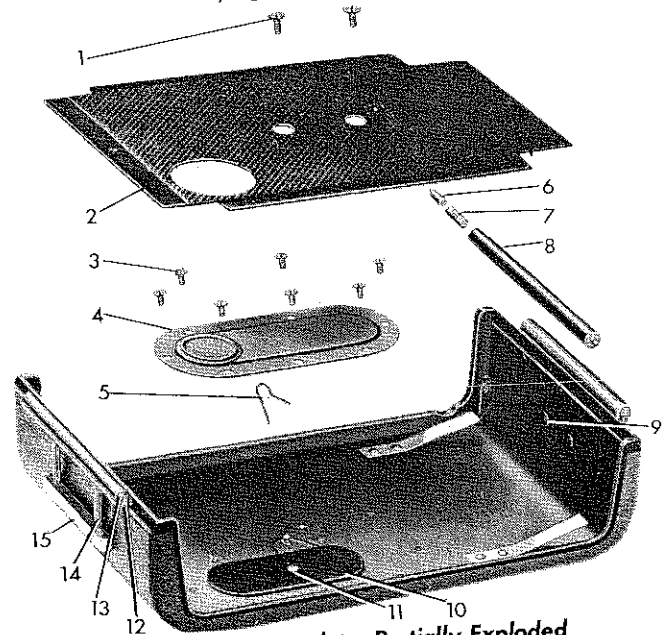

Figure 42—Back Complete, Partially Exploded
o. **DISASSEMBLY OF BACK COMPLETE.** (See figure 42.)
(1) Remove the two tension pad to back screws (1) and lift off the film tension pad assembly (2).
(2) Remove the seven window cover to back screws (3) and lift off the window slide cover assembly (4).
(3) Grasp the window slide spring (5) with a pair of tweezers and pull it out toward the top of the back.
(4) If necessary, use a No. 50 drill to remove the turned-over portion of the window slide button (11), being careful not to drill any deeper than is necessary to push the window slide button through toward the outside of the back. Lift off the window slide (10).